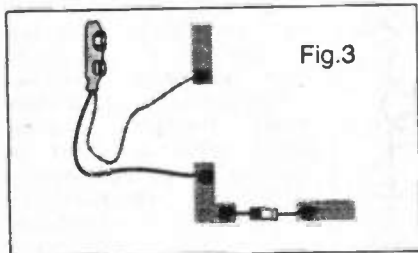

Fig. 3
3. The components are then soldered across the gaps in the copper track (Fig. 3).